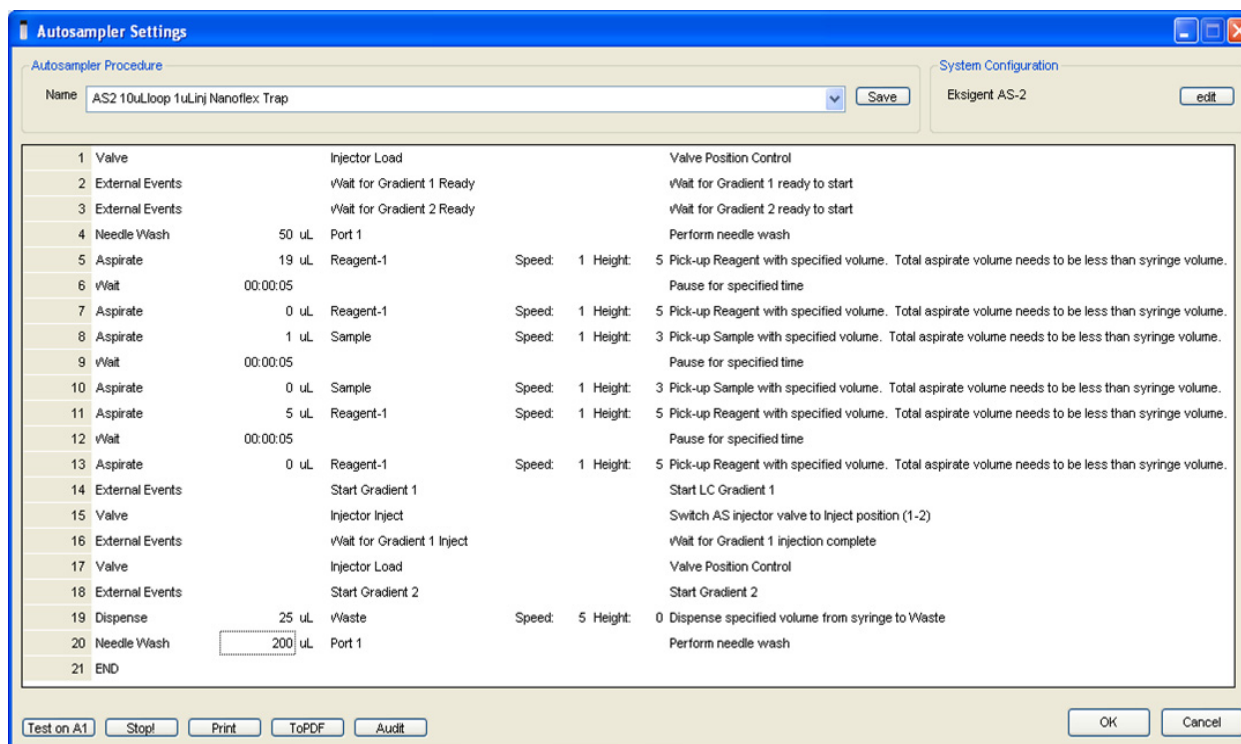
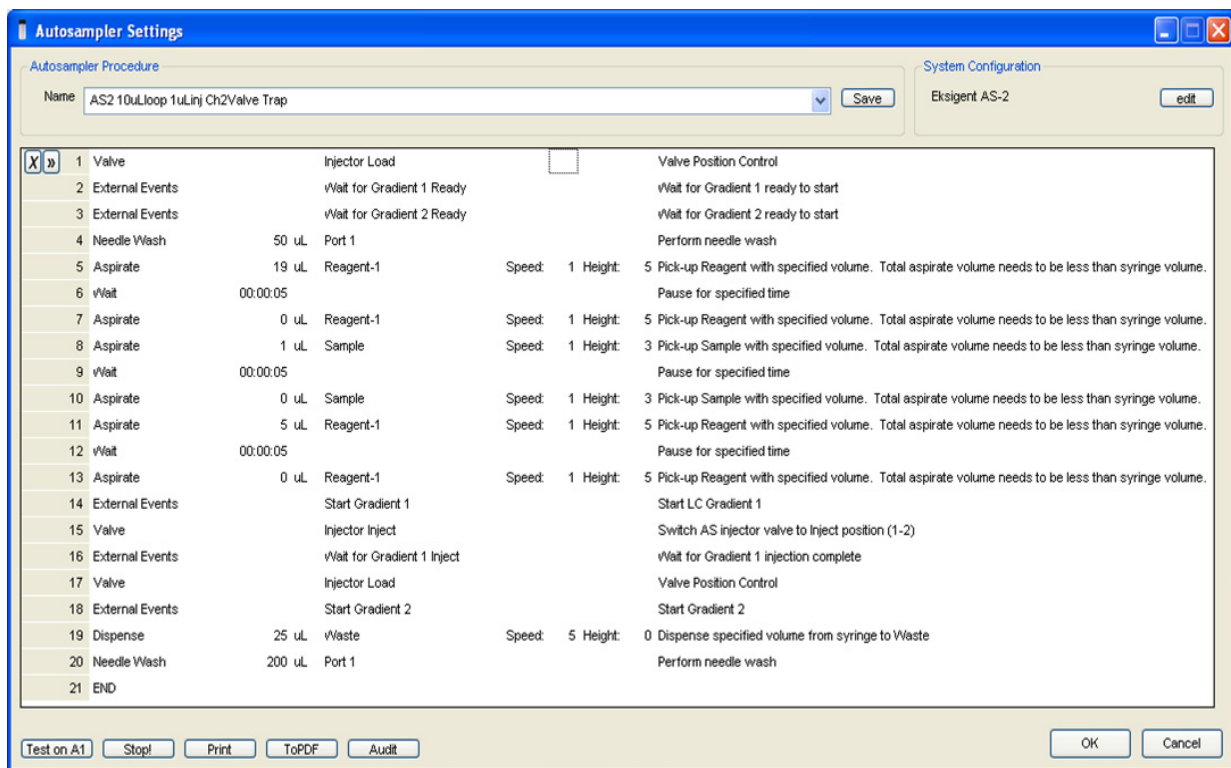

Figure 2-12 Autosampler Settings dialog—trap-elute configuration (Nanoflex system)
Figure 2-13 Autosampler Settings dialog—trap-elute configuration (column)
3. Create the autosampler method for a trap-elute configuration, as shown in Figure 2-12 or Figure 2-13, depending on the installation.